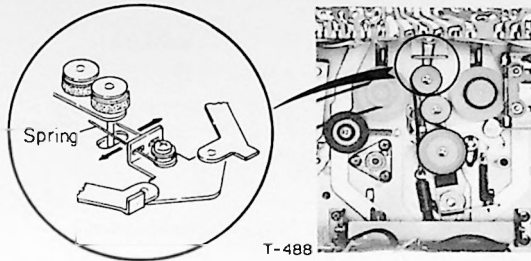

Fig. 4-5 F. FWD & Rewind Torque Measurement
7. If the above cleaning is ineffective for the torque correction, bend the spring (see Fig. 4-5) to get the specified torque value.